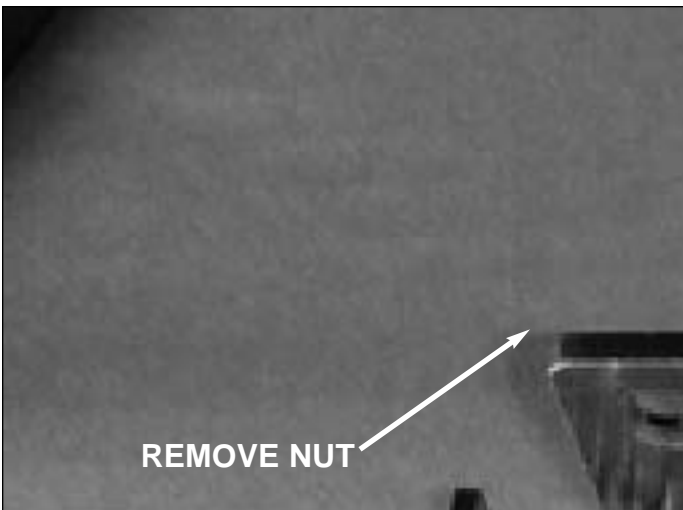

Figure 5 - Transaxle Shift Bracket and Springs
5. To remove transaxle shift lever, tension springs, and spring bracket from cable, remove jam nut from end of cable. Unthread shift lever assembly, spring bracket and springs from shift cable. See Figure 5.
6. Reassemble in reverse order. Use care to preassemble shift lever bracket and pin, shift springs and spring bracket. See Figure 5. Slide cable through shift lever and spring assembly, threading into opposite hole. Install jam nut.